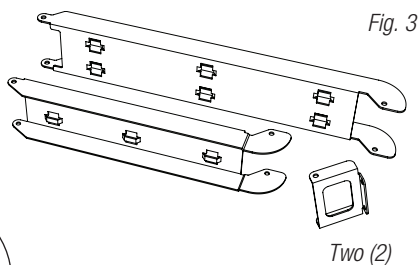

Fig. 3
1. Carefully unpack Z Bracket. Do not discard hardware (included) (*Fig. 3*, pg. 4).